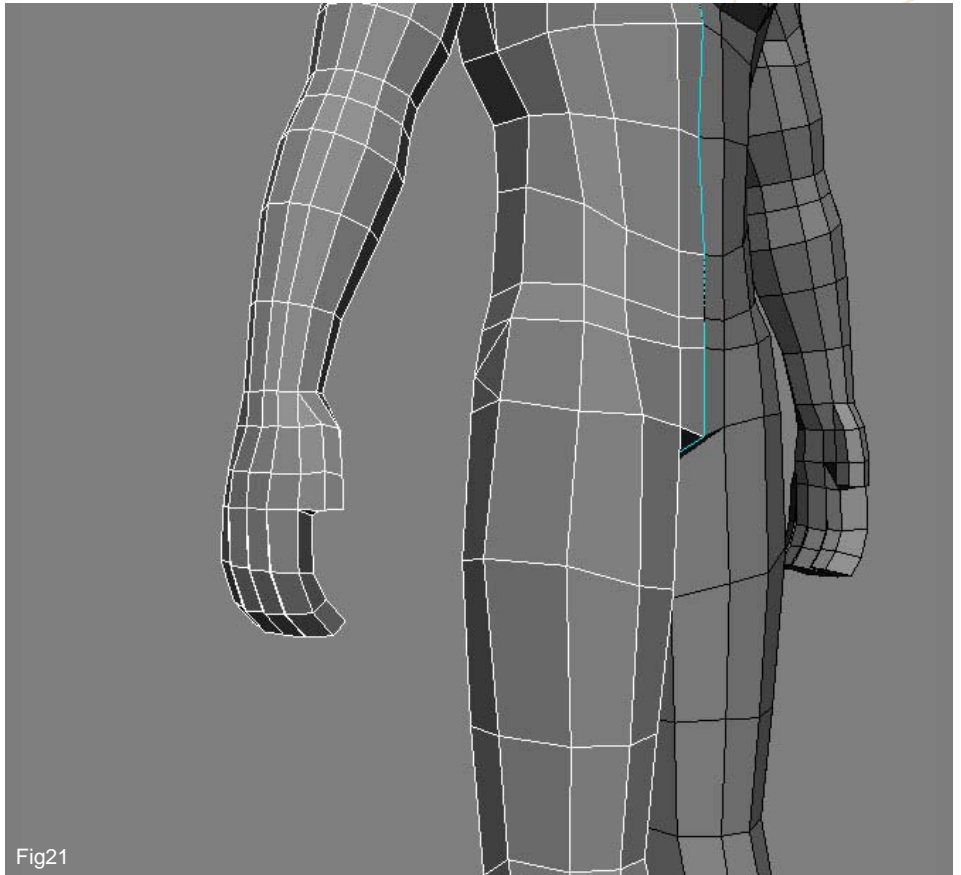

Fig21
21. Keep extruding and rotating polygons until you have all the four fingers complete, like shown in Fig 21.